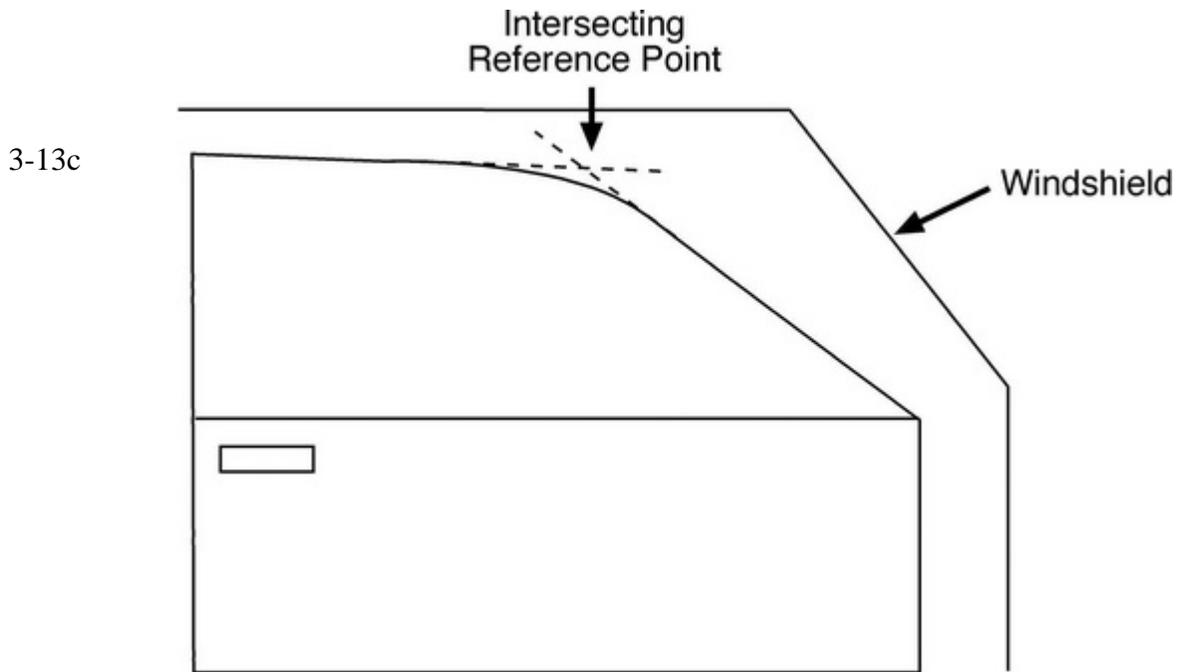

Figure 3-13c - Intersecting Reference Point for curved door openings.
- For those locations in front of the door (between the door and the windshield) and behind the door (between the door and the baffle board), the roof build-down may not extend more than 3 inches (7.62 cm) below the lowest part of the top of the door jamb. For doors with curved door openings, the reference point shall be defined as the intersection between two imaginary lines as shown in Figure 3-13c.